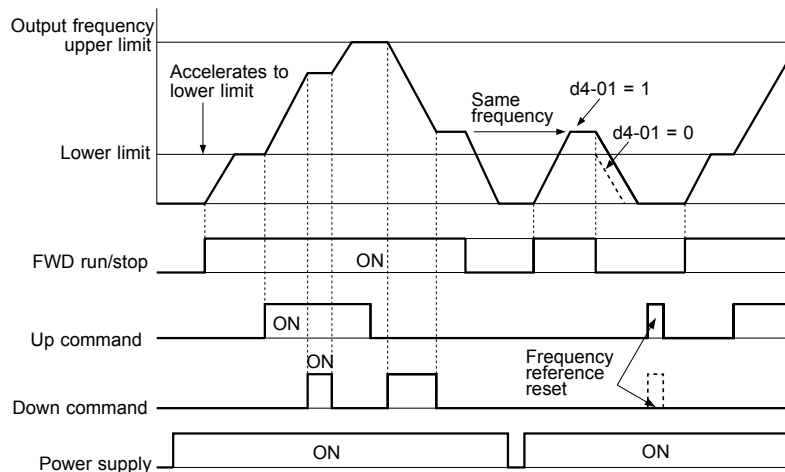

Figure 5.17 Up/Down Command Operation
*Figure 5.17* shows an Up/Down function example with a lower frequency reference limit set by d2-02 and the frequency reference hold function enabled/disabled.